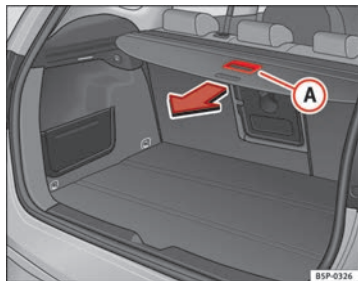

Fig. 122 Using the rear shelf
- Use the handle **A** to pull the shelf back until you hear a “click” ⇒ fig. 122.